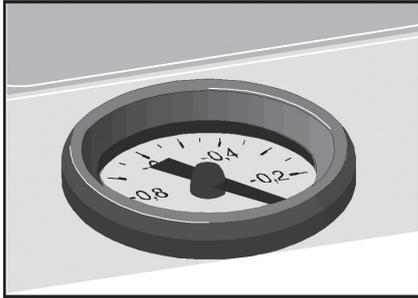
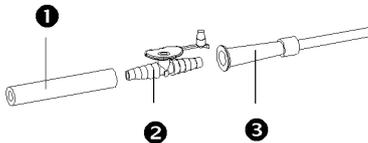

Fig. 3. Vacuumgauge
Fig. 4.
- Adjust your desired maximum vacuum by closing the suction hose opening with the finger (①, fig. 4) the vacuum is then generated. Open the regulating valve (⑥, fig. 1, page 4) until the vacuumgauge shows the desired vacuum value (fig. 3).
- Choose a suction catheter of the right size (e.g. Unoplast catheters ③, fig. 4, which are available from ATMOS in 3 different sizes) or a suction instrument which is only available from specialized dealers.
- Join the suction hose (①, fig. 4) and the suction catheter (③, fig. 4) by means of the finger tip (②, fig. 4).
- 3.) If the insulating mat or the sound absorber are wet or soiled, the device is oversucked and therefore contaminated. For this inspection you have to remove the cover from the sound absorber (fig. 3).